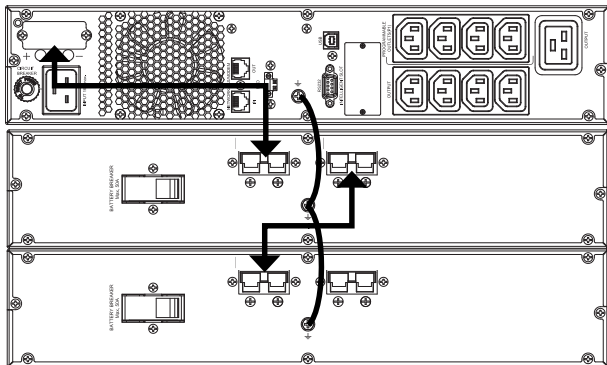

Fig. 9. Connection to battery modules.
- Connection of the battery module to the UPS is made by means of a cable featuring polarised connectors at both ends and supplied with the first one. Plug the connector at one end of the cable into the corresponding socket on the SPS.ADVANCE and the one on the other end into the battery module (see Fig. 9). In the same way, battery modules can be linked in parallel since each of them has two connectors. All of the connectors must be secured to their units by means of the screws that held the protective cover of each connector to the UPS or battery module.
-  As the device has Class I protection against electric shock, it is obligatory and essential to connect the earth conductor (). Connect the earth cable to the corresponding points identified, either terminal or screw (see Fig. 9). If the interconnection cable has a mesh, the earth connection will be linked between units through it by fixing the metal supports of the connectors to the UPS and battery module or modules using the screws indicated in the previous point.
- Fig. 9 shows the connection of a 3 kVA device in a rack arrangement with two battery modules. For a larger number, proceed in a manner similar to those shown in the illustration.